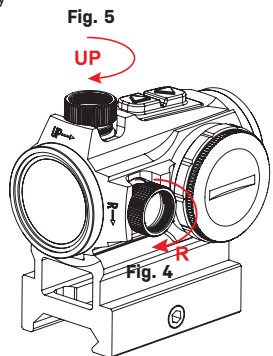

Fig. 5
5. Elevation adjustments (See Fig 5.)